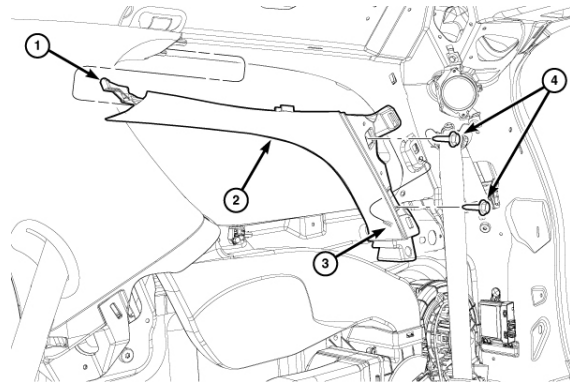

Figure 27 – Headliner Trim
54. Remove the headliner trim panel screws (4) (Figure 27).
55. Using a trim stick, disengage the retaining clips that secure the headliner trim panels (2) to the body (Figure 27).
56. Release the tethers from the trim panels and remove the headliner trim panels (2) (Figure 27).
80. Install the tether to the trim panels and place the headliner trim panels in position (2) (Figure 27).
81. Align and seat the retaining clips that secure the headliner trim panels (2) to the body (Figure 27).
82. Install the headliner trim screws (4) (Figure 27).